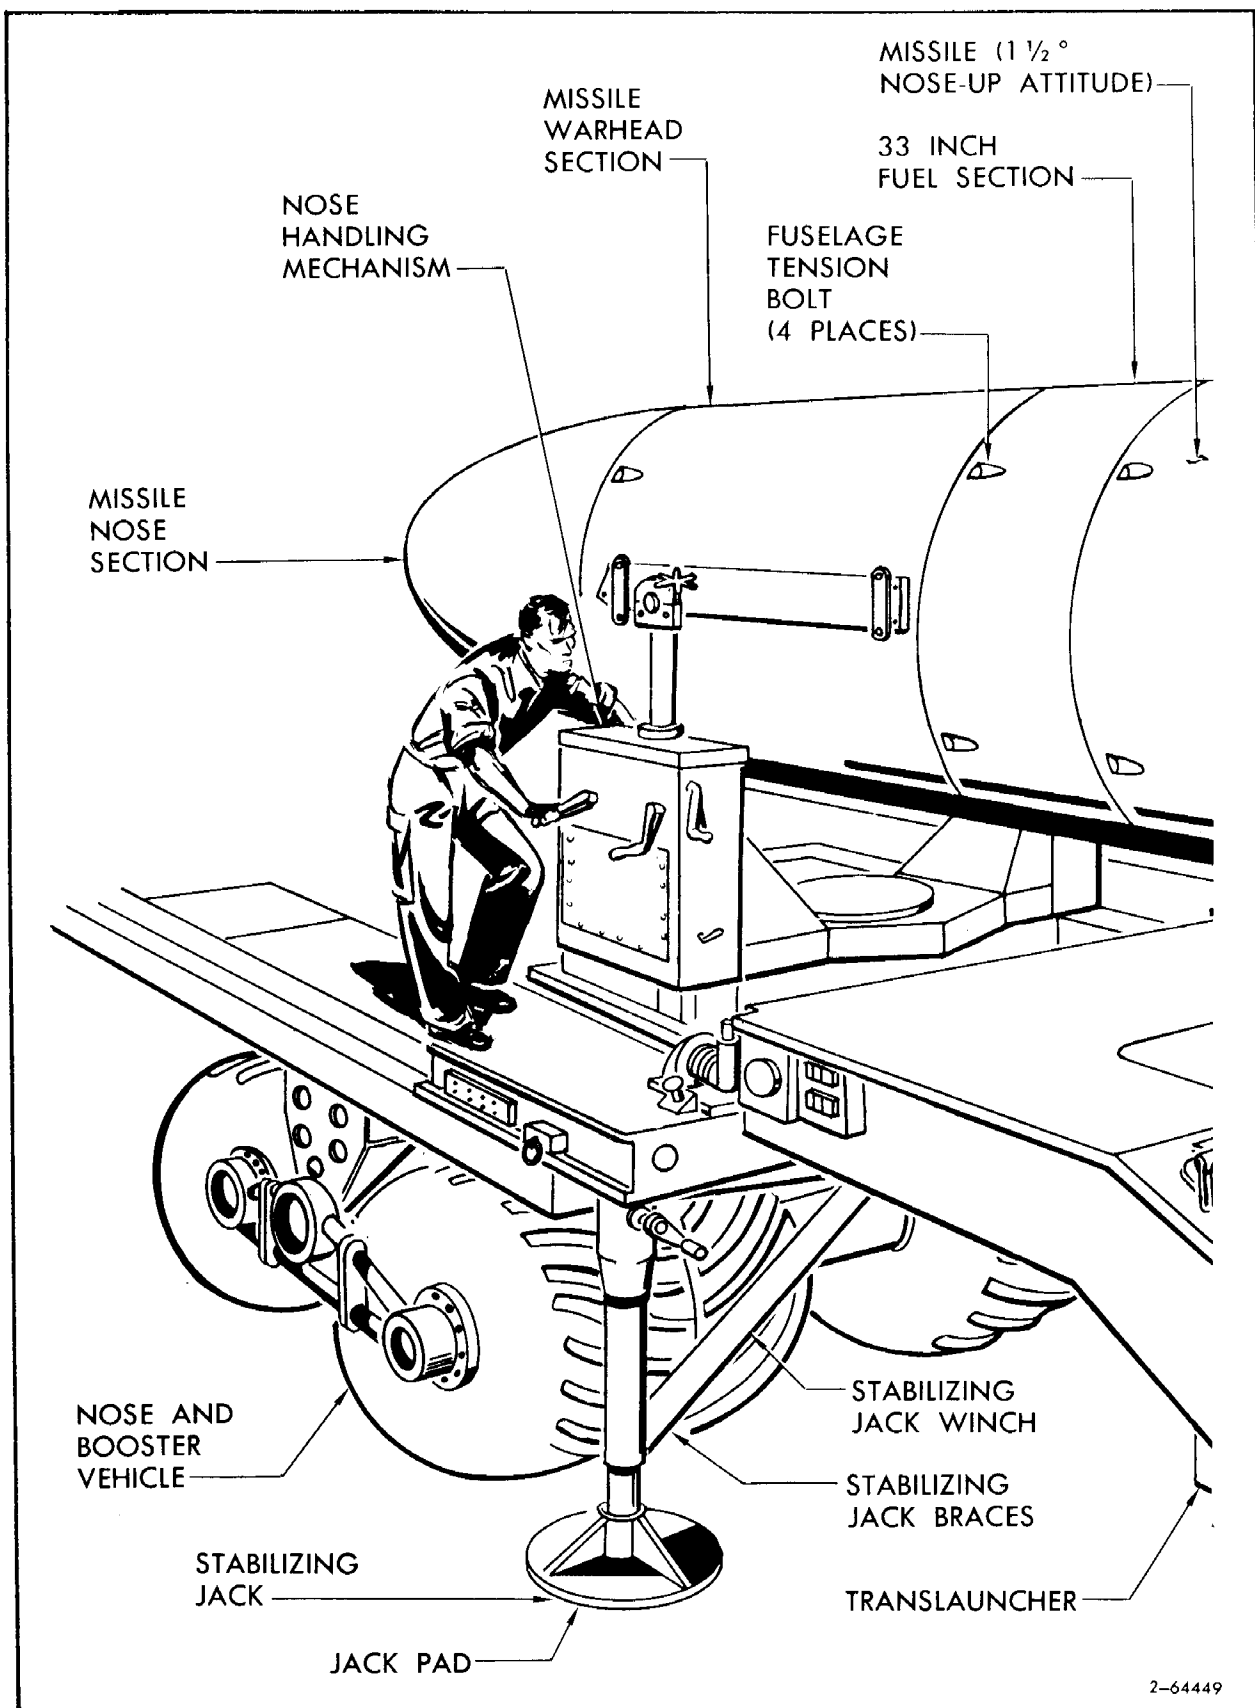

Figure 3-43. Installing Nose and Warhead
- b. Adjust AZIMUTH DRIVE control FORE and AFT DRIVE control, LATERAL DRIVE control, ELEVATING JACK DRIVE hand crank, and PITCH CONTROL, to align support balls on attachment beams with fittings on top of elevation jacks. (See figure 3-43.)
3-171. INSTALLING NOSE/WARHEAD SECTION. (See figure 3-43.)